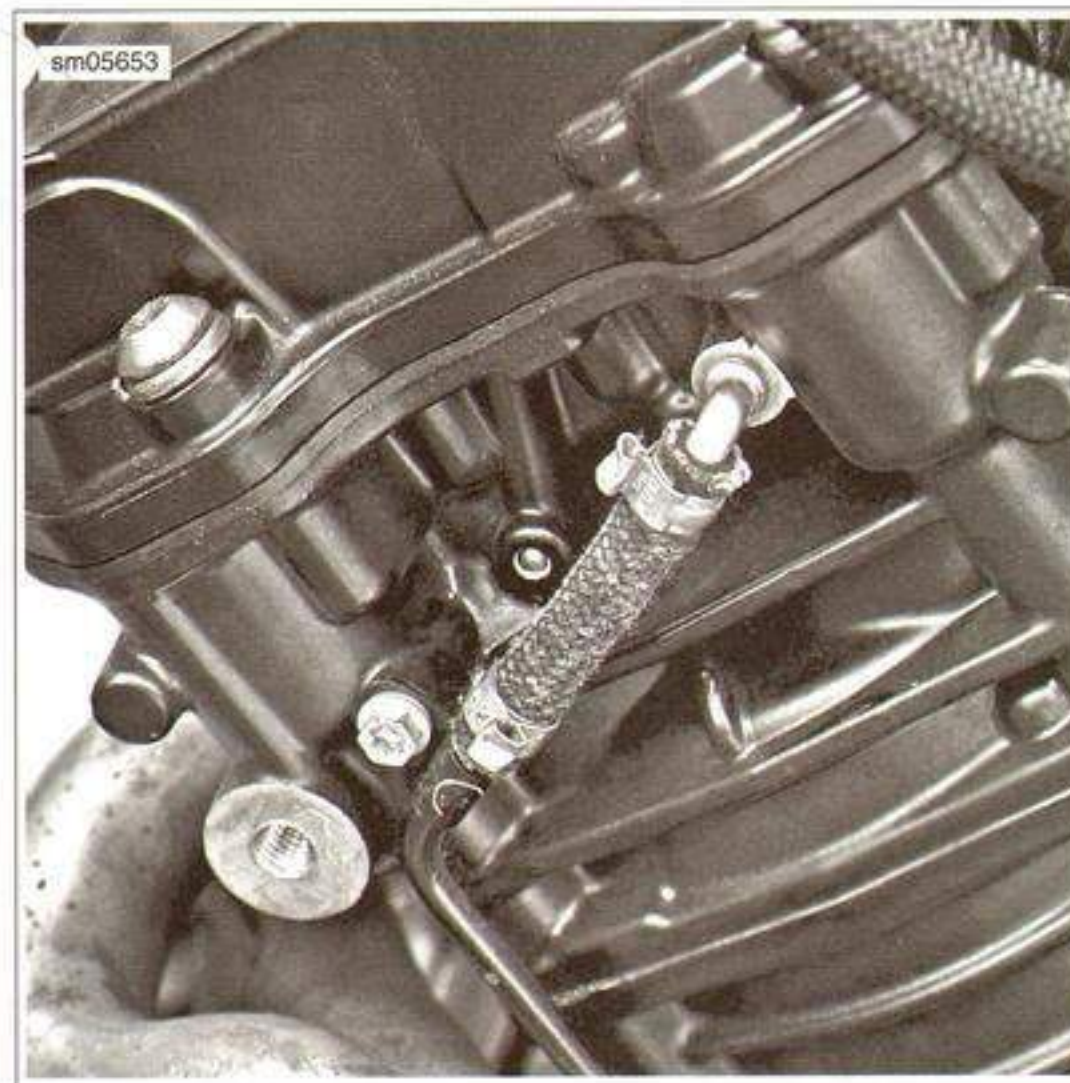

Figure 3-110. Vent Tube Low Pressure Hose
3. See Figure 3-110. Remove the vent tube fastener.